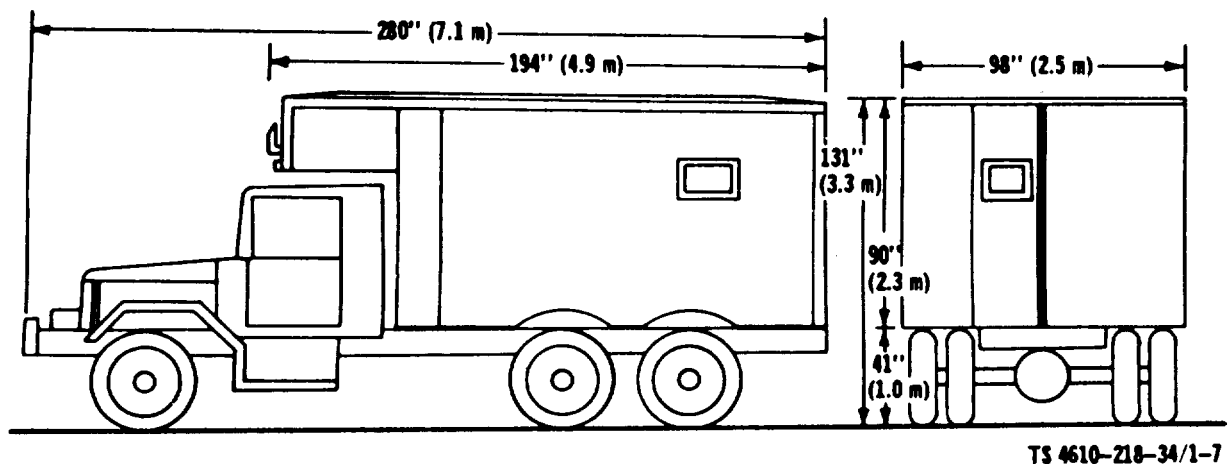

Figure 1-7. Dimension and Clearance
e. Dimension and Clearance. Figure 1-7 shows the dimension and clearance for the water purification unit.